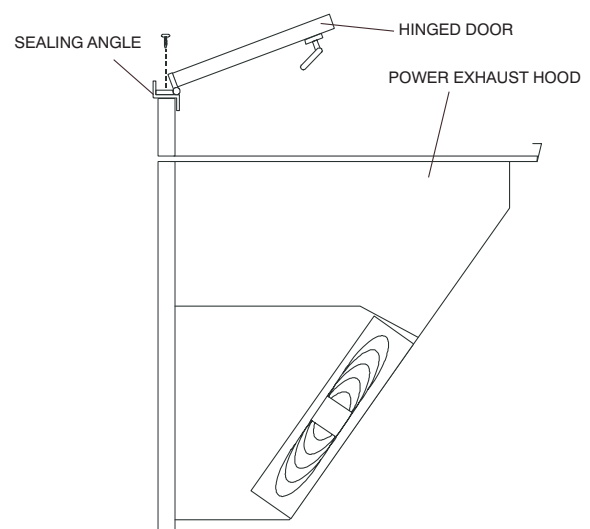

Fig. 3 - Insert Screws to Reinstall the Hinged Door
6. Place the door and hinges back on the unit. Screw through the door hinges and sealing angle into the flanged top of the hood using the 4 screws set aside in Step 1. (See Fig. 3.)